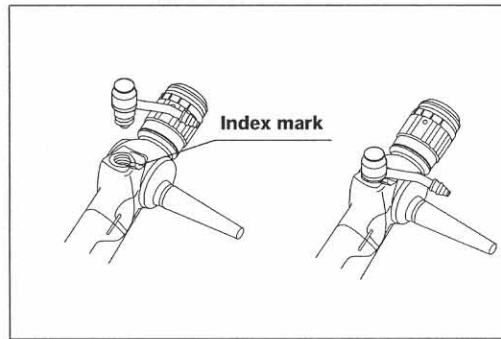

Figure 3.5
1. Place the Suction Valve into the Suction Valve Housing, aligning the arm of the main body with the white index mark on the endoscope. (See Figure 3.5)